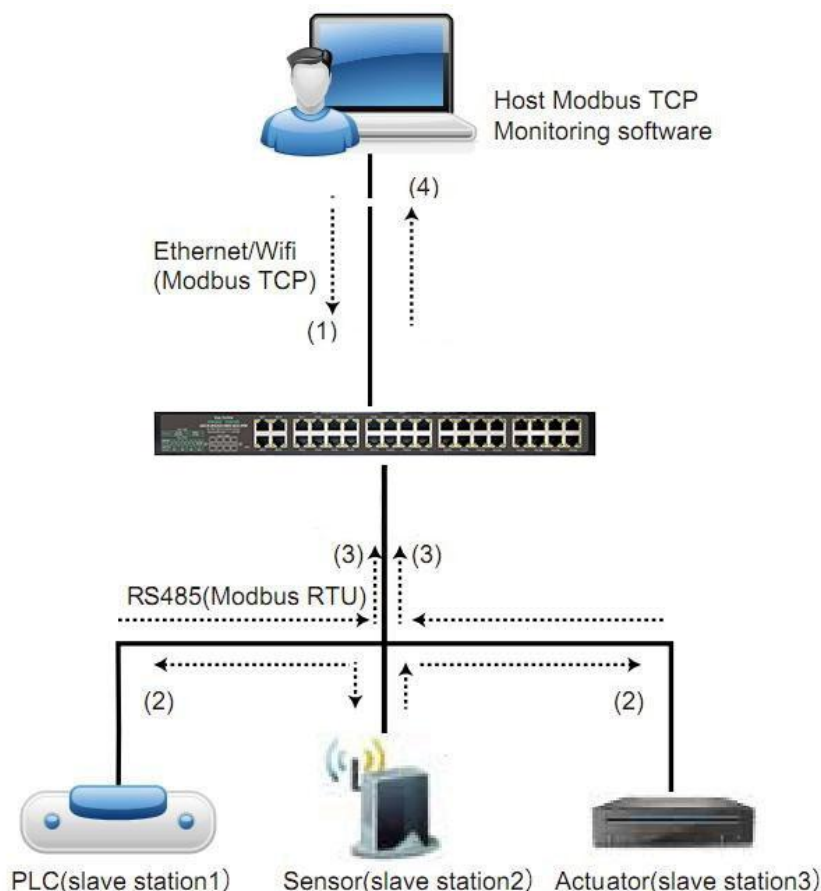

Figure 39 Storage Modbus Gateway
As shown in Figure 39: The direction of ordinary Modbus TCP data flow is (1) → (2) → (3) → (4). That is, the Modbus TCP command is first converted into the corresponding command of Modbus RTU, and then the device responds to the Modbus RTU command to the Modbus gateway, and then the Modbus gateway converts it into Modbus TCP again and sends it to the monitoring host computer.